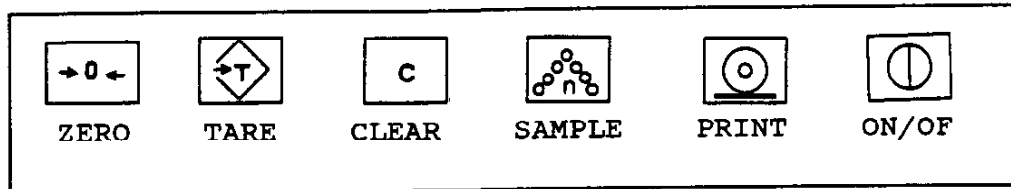

Figure 2
The keyboard used on the Model XX38 is a six position membrane keyboard utilizing graphic symbols. An illustration of the keyboard is shown in Figure 2. Refer to Section 4.2.4 for descriptions of keys.
- 4.2.2 Press the white "ON/OFF" key (located on the lower right side of the display assembly) to turn the scale power ON. (Refer to Figure 2)